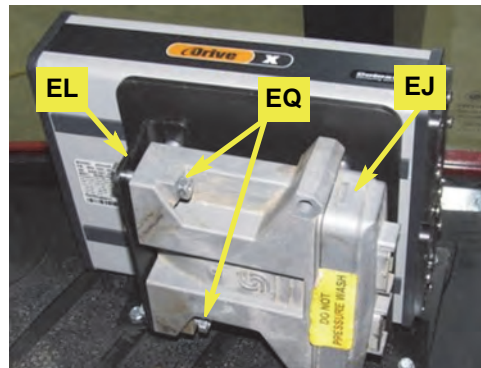

Figure 1c: Installed steering controller
- c. Using hardware **WF** (screw) and **WE** (nut), attach the WAS arm **WC** to the WAS assembly. Mount the arm in the opposite direction to the WAS wire connector **WB** (Figure 1c with inset).
Figure 1c with inset: WAS arm installed
- c. Using hardware **EQ**, attach steering controller **EJ** (connectors rearward, pressure wash warning outward) to its bracket **EL** (Figure 1c).